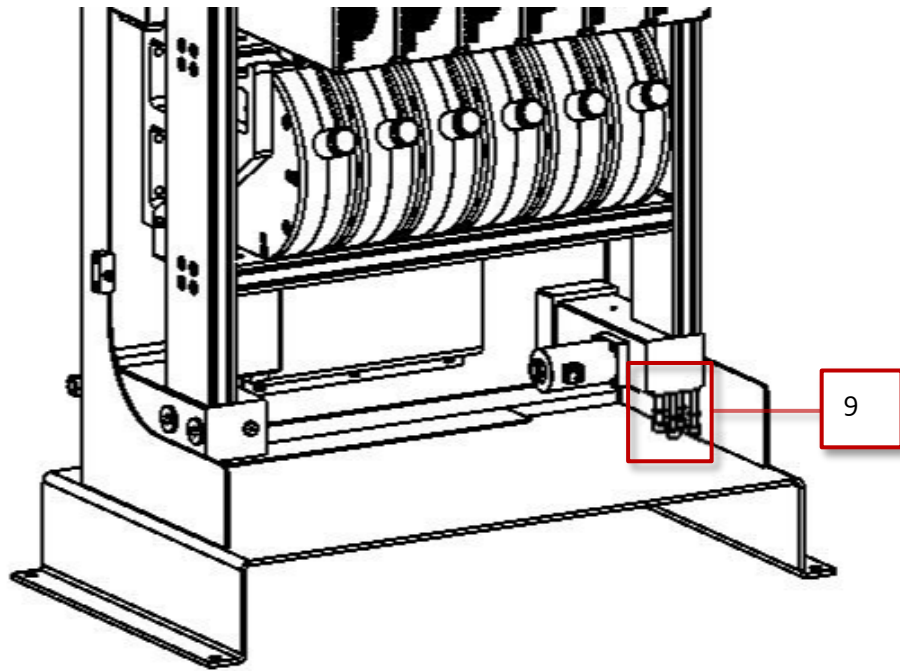

Figure 70 Remove screws to loosen the vertical connection bar
9. Remove the screws under the ozone out connection, see Figure 70.